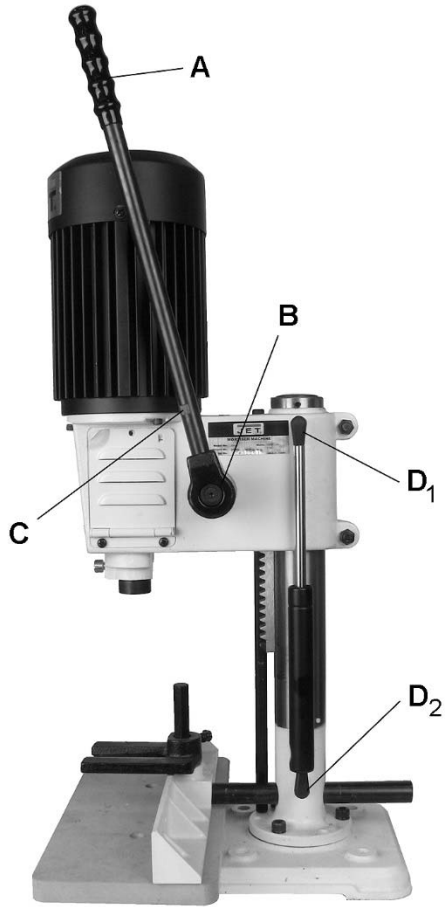

Figure 8-1
1. Screw handle (A, Figure 8-1) into clutch block (B, Figure 8-1).
2. Tighten handle. The handle has a notch (C, Figure 8-1) to accommodate a wrench.
4. With head in the up position, press the hydraulic cylinder onto the two fittings. The upper fitting (D₁, Figure 8-1) is located on the head. The lower fitting (D₂, Figure 8-1) is on the column.